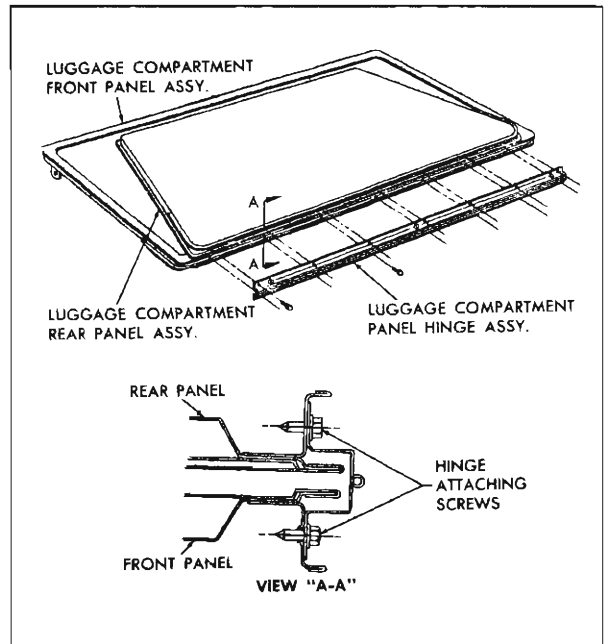

Fig. 8-4 Luggage Compartment Hinge Attachment
1. On "35" style, use handle and fold rear luggage compartment panel forward until it is resting entirely on front luggage compartment panel (Fig. 8-4).
1. Using handle, fold rear luggage compartment panel forward until it is resting entirely on front luggage compartment panel (Fig. 8-4).
1. Using handle, fold rear luggage compartment panel forward until it is resting entirely on front luggage compartment panel. (Fig. 8-4).
2. Remove screws securing hinge assembly to both front and rear panels and remove hinge from body (see view "A-A", Fig. 8-4).